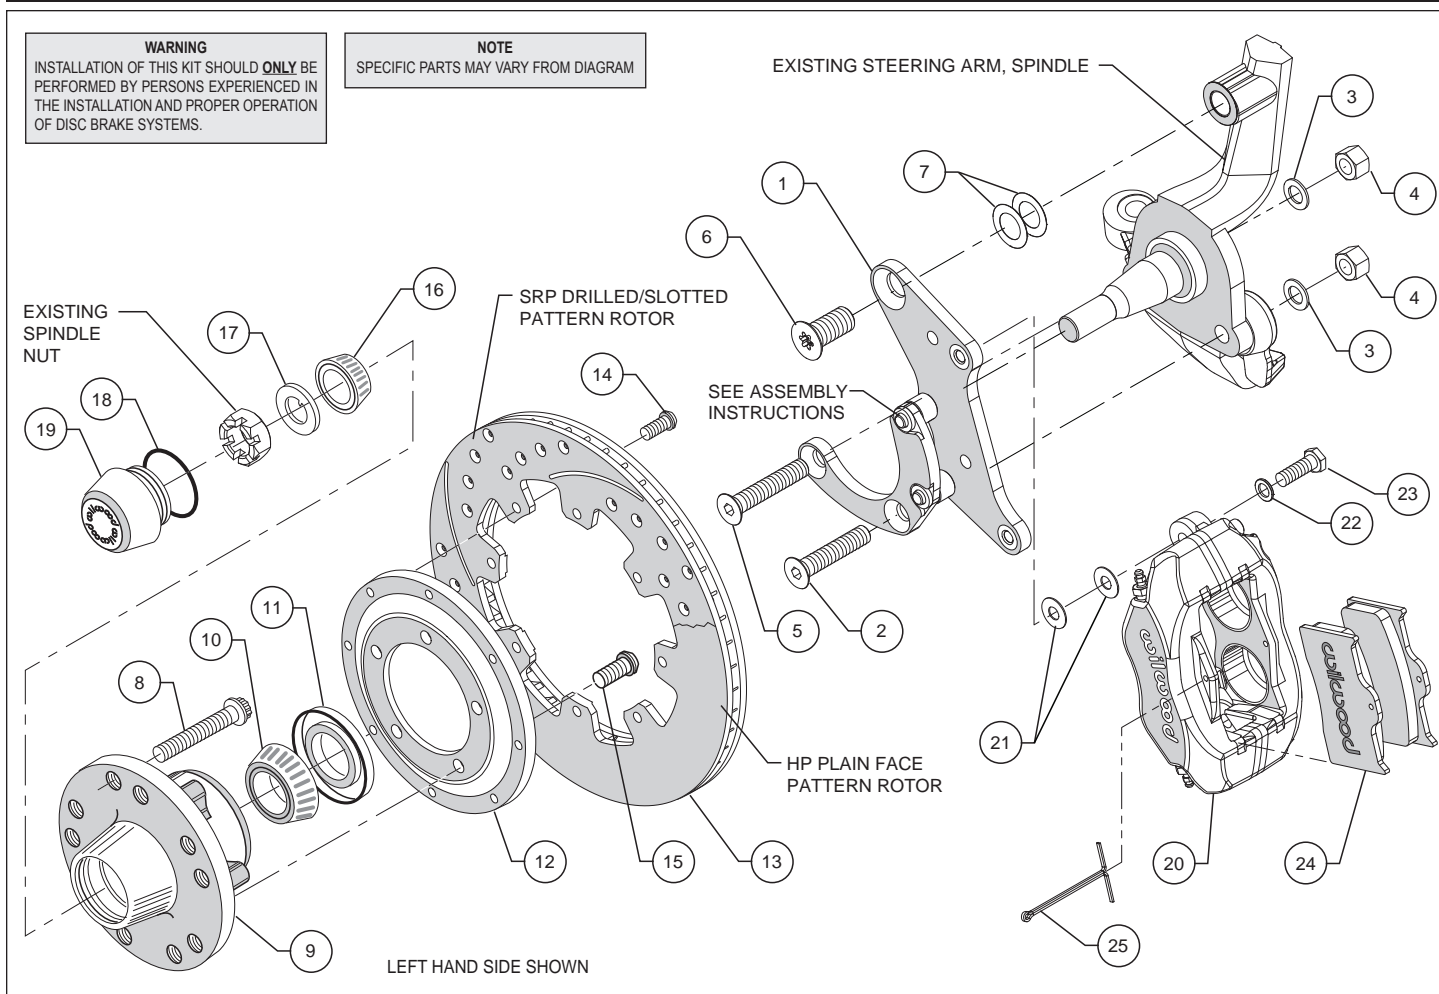
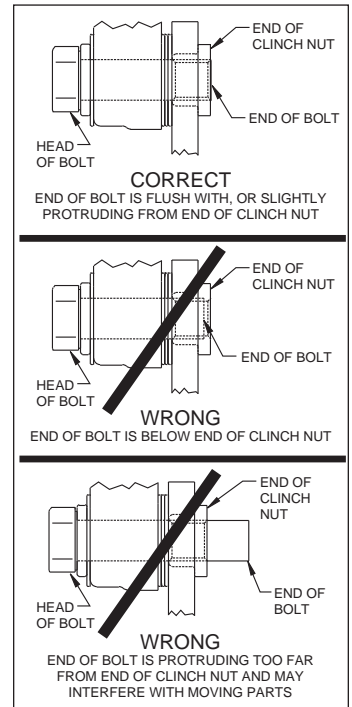

Figure 1. Typical Installation Configuration
Figure 3. Clinch Nut Engagement Diagram
**Assembly Instructions** (numbers in parenthesis refer to the parts list and Figure 1 on the preceding pages): **CAUTION:** All mounting bolts must fully engage clinch nuts. Be sure to check that all bolts are either flush or protruding through flanged side of clinch nut after shimming, Figure 3.
•The caliper mounting bracket (1) has been assembled at the factory for alignment purposes. Loosen the two bolts that secure the brackets together so that the bolts are hand tight only, this will enable the bracket assembly to be adjusted to accommodate various spindle tolerances during assembly. Align bracket with the two lower holes on the spindle face and attach using bolts (2 and 5), washers (3), and secure using nuts (4), as shown in Figure 1 and Photo 1. Install bolt (6) through top of bracket while placing shims (7) between bracket and spindle, Figure 1. Initially place two .010" thick shims (7) on the top bolt between the bracket and upright, Figure 1. Temporarily tighten the mounting bolts. Ensure that the flanged heads of the clinch nuts in the bracket are facing outboard, Photo 1. **NOTE:** The bracket must fit squarely against the mounting points on the spindle and be parallel with the mounting face. If not, add or subtract shims (7) on the top bolt between the bracket and spindle. Inspect for interference from casting irregularities, machining ridges, burrs, etc. Remove lower bolts one at a time, apply red *Loctite*® 271 to the threads, and torque nuts to 77 ft-lb. Remove the upper bolt, apply red *Loctite*® 271 to threads, and torque to 140 ft-lb. Remove one at a time the bolts that secure the bracket assembly to each other, apply red *Loctite*® 271 to the threads and torque to 40 ft-lb.
- Orient the rotor (13) and the rotor adapter (12) as shown in Figure 1 and Photo 4. Attach the rotor to the adapter using bolts (14). Using an alternating sequence, apply red *Loctite*® 271 to the threads, and torque to 25 ft-lb.
- Mount the adapter/rotor assembly (12/13) to the hub (9) using bolts (15), as shown in Figure 1 and Photo 5. Using an alternating sequence, apply red *Loctite*® 271 to the threads, and torque to 55 ft-lb.
- Pack the small outer bearing cone (16) with high temperature disc brake bearing grease and install into hub (9). Slide the hub/rotor assembly onto the spindle. Secure using spindle washer (17) and OEM spindle nut, Photo 6. Adjust bearings per OEM specifications. Install saved OEM nut lock (if any) and a new cotter pin (not supplied).
- Screw dust cap (19) into hub (9), Photo 7. Friction created by the o-ring (18) on the dust cap keeps it from unscrewing. **NOTE:** The O.D. of the existing OEM spindle washer may be larger than the I.D. of the dust cap not allowing it to seat against the hub face. Therefore, use the spindle washer (17) supplied with the kit instead of the OEM washer.
- NOTE:** Please reference the caution statement at the beginning of the assembly instructions. Mount the caliper (20) onto the caliper mounting bracket (1) using bolts (23) and washers (22), as shown in Figure 1. Initially place two .035" thick shims (21) on each bolt between the caliper and the bracket, Photo 8. Temporarily tighten the mounting bolts and view the rotor (13) through the top opening of the caliper. The rotor should be centered in the caliper, Photo 9. If not, adjust by adding or subtracting shims between the bracket and the caliper. Always use the same amount of shims on each of the two mounting bolts. **NOTE:** The end of each bolt must be flush with or slightly protruding from the head of the clinch nut, as shown in Figure 3. If necessary place spare shims between washer (22) and caliper mounting ear to achieve the proper clinch nut engagement. Once the caliper alignment and clinch nut engagement are correct, remove the bolts one at a time, apply red *Loctite*® 271 to bolt threads, and torque to 40 ft-lb.
- Install the disc brake pads (24) into the caliper, with the friction material facing the rotor (13), and secure in place using cotter pin (25), Photo 10.